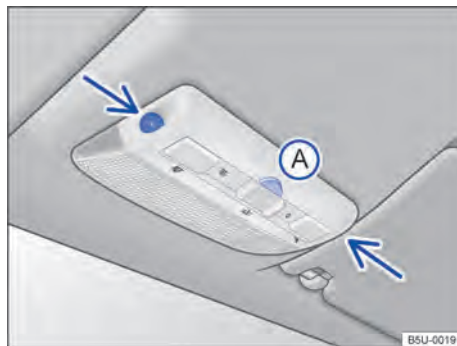

Fig. 46 On the roof console: sensors for the interior monitoring system and button **A** to turn off the interior monitoring system.
→ Fig. 46 (arrows).
- Press → Fig. 46 (A). The indicator lamp  lights up on the dash panel.